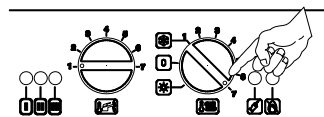

Figure 15.8
- Turn the boiler ON positioning the function selector B in the position shown in figure 15.8 and ensure that the room thermostat is set to "heat demand".
- Watch the gauge and check to see if the ignition pressure registered corresponds to the values given in the Technical Data. Turn off the boiler and reignite it by turning the function selector B to the OFF position and then back to that indicated in figure 15.8